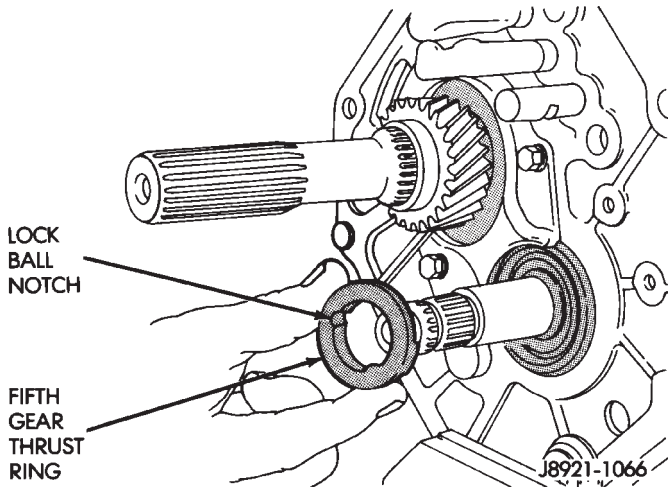

Fig. 96 Install Fifth Gear Thrust Ring
(27) Install fifth gear thrust ring onto countershaft and over lock ball (Fig. 96).